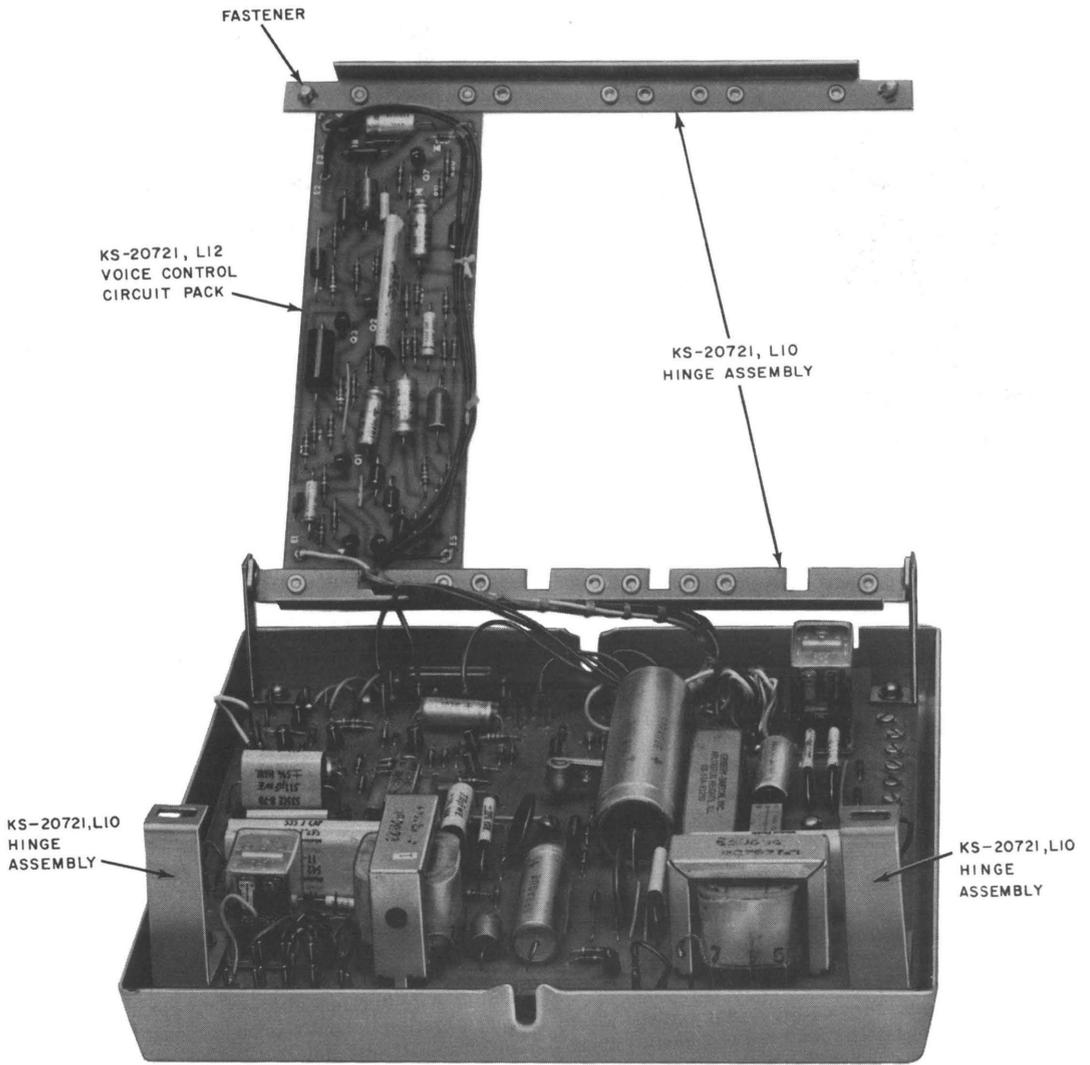
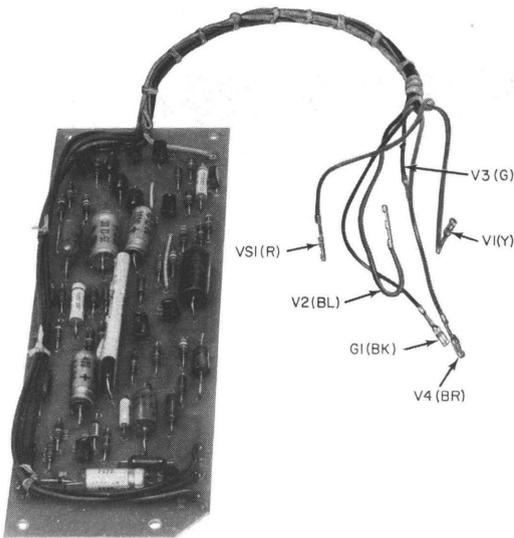

Fig. 3—KS-20721, List 2 Station Coupler
Fig. 4—KS-20721, List 12 Voice Control
2.03 The KS-20721, List 2 station coupler (Fig. 3) consists of a KS-20721, List 1 station coupler with a KS-20721, List 10 hinge assembly and KS-20721, List 12 voice control, factory installed.
2.04 The List 12 voice control (Fig. 4) consists of a speech detector and a 13-second timer that is kept reset by pulses from the speech detector when voice signals are present on the telephone line. In the absence of speech signals, the timer will time out in approximately 13 seconds disconnecting the coupler from the line. However, the CO receiver off-hook tone generator, if applied to the line, will prevent operation of the List 12 voice control. An automatic volume limited (AVL) amplifier is part of the speech detector and provides a relatively constant -5 dBm speech level at 600 ohms to leads AVL and ground. The customer may use this AVL amplifier to drive a tape recorder, paging system, or other equipment. ⚡The List 12 voice control is provided only with PCA RDY to provide the features of the Y option (see Tables A and C).⚡
- (1) Remove the cover from the station coupler using the KS-19192, List 1 tool or screwdriver.
- (2) Attach KS-20721, List 10 hinge assembly to the four corner screws mounting the List 1 board. Refer to Fig. 3.
- (3) The installer can mount the circuit pack on the internal mounting frame formed by the hinge assembly. Place board in correct position on frame (refer to Fig. 3 or cover label) and secure with four corner mounting screws furnished with circuit pack.
- (4) Connect the flexible jumper leads on List 1 board to provide the required options called for in Table A by using the connecting information given in Table B (see 3.04).
- (5) Provide option Y by plugging the connecting leads from the List 12 board into corresponding terminals on List 1 board per Table B and Fig. 4. Dress leads to avoid interference with boards and cover and secure leads with cable clamp provided.
- (6) Close hinge assembly and fasten the two top corner fasteners; replace cover.